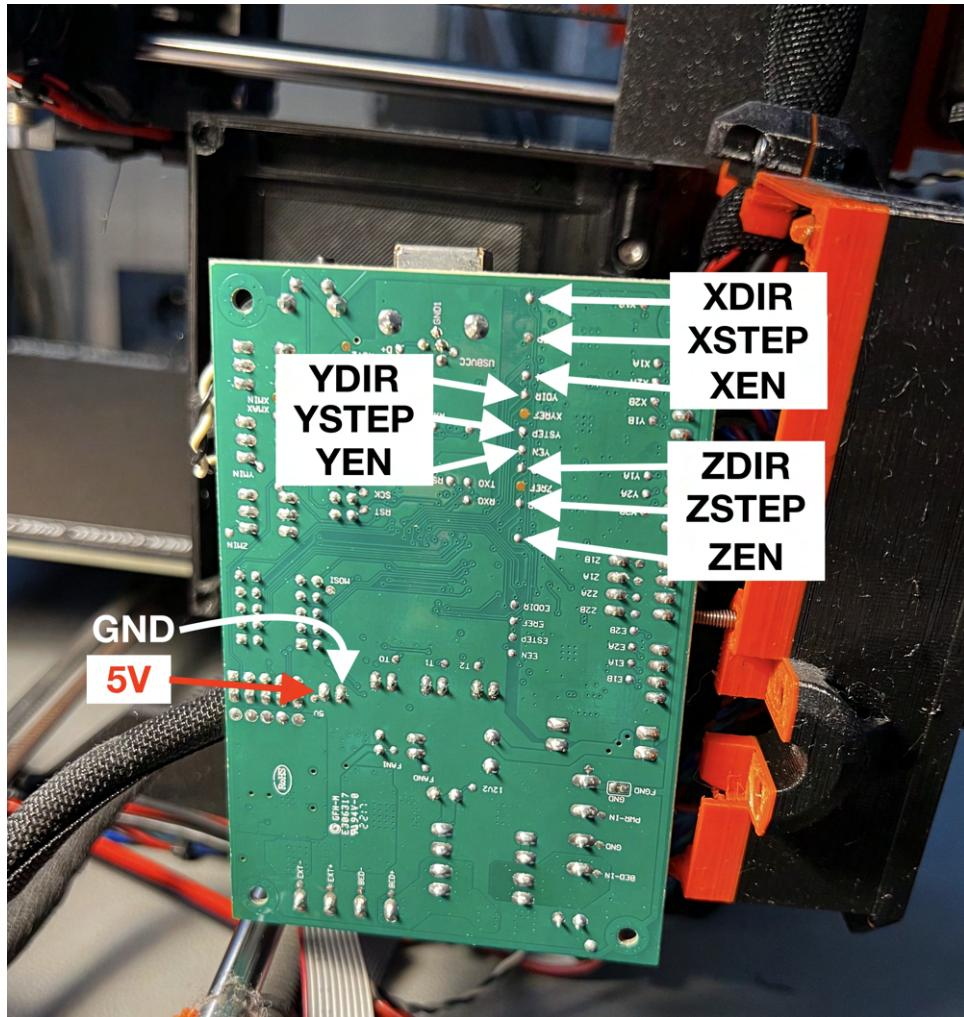
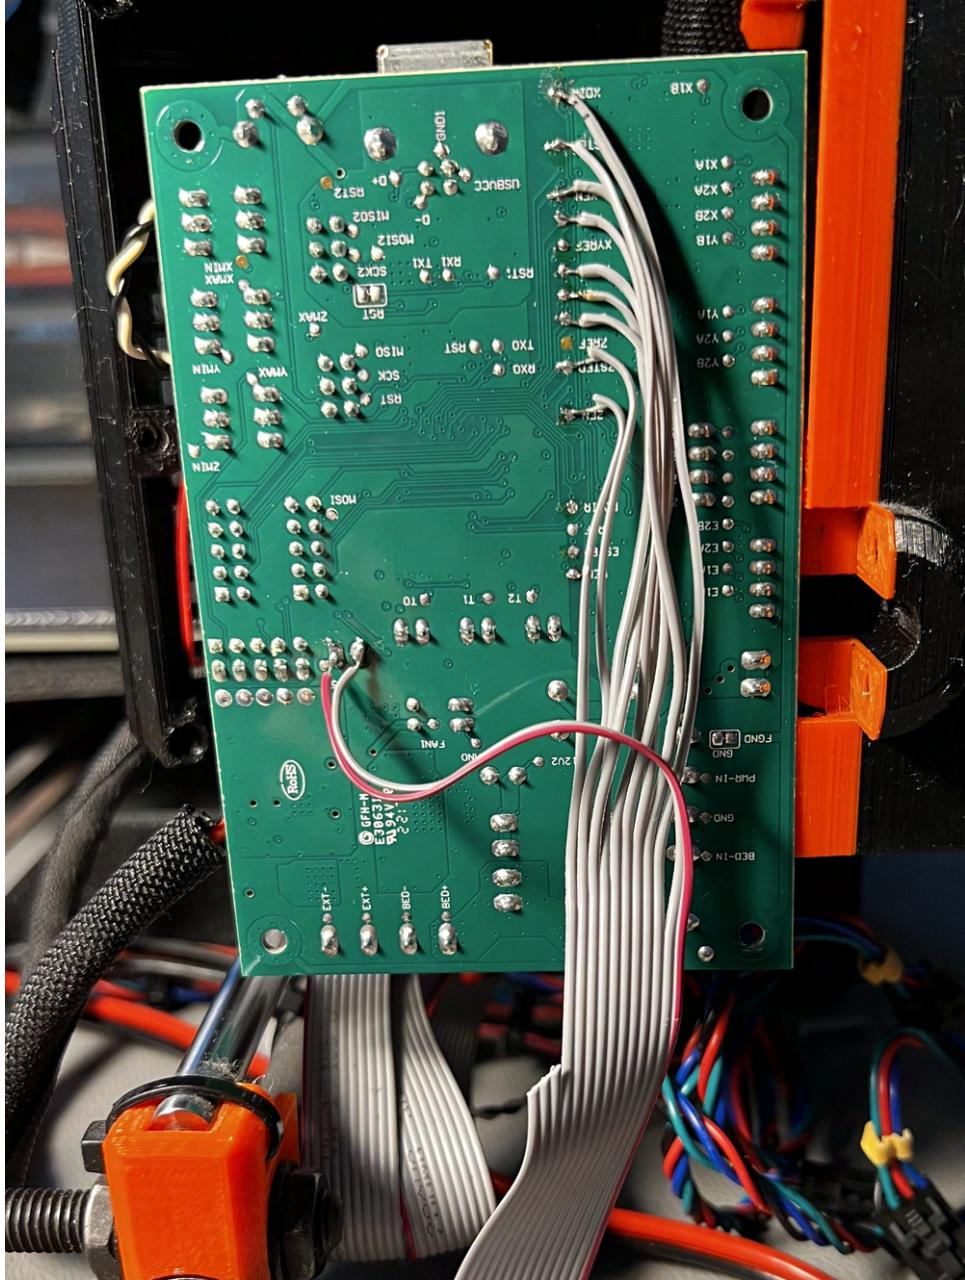

Figure 7: Recommended position for Rambo control board to solder data pins.
Figure 8: Data pins soldered to Rambo, pins 12, 13 and 14 left floating in this installation of a **XYZ** board.
**IMPORTANT:** Before beginning with the soldering, it's important to note that the pads' names are marked on the Rambo board, as shown in Figure 7. It's crucial to watch out for the REF pins located close to the other pins and make sure you don't accidentally solder a data pin to one of those. Additionally, the data cable's orientation should be such that the red cable is located towards the right, ensuring the correct orientation of the connector to the upgrade board, as shown in Figure 8.
After you have finished soldering to data pins the result should look like Figure 8. You can use some silicone or similar to glue the cables in place.